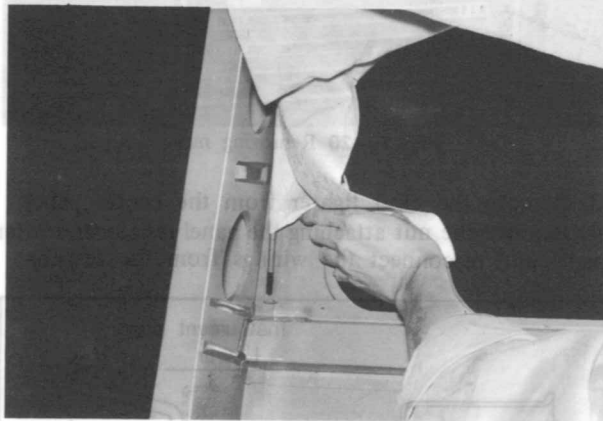

Fig. 14-13 Inserting rear listing wire
- 1. Beginning at the rear, insert both ends of rear listing wire into the holes of the back plate, as shown in Fig. 14-13.